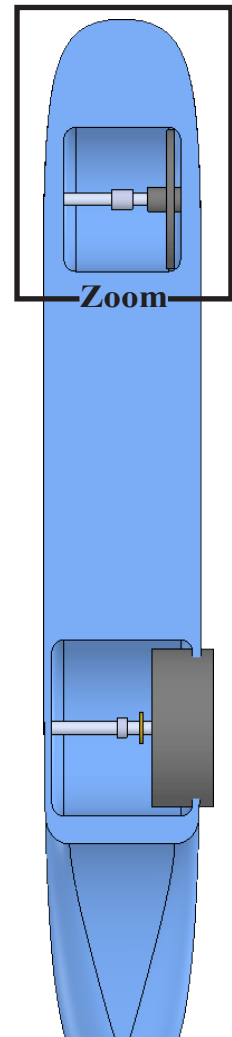

Fig. 9
Step 2. Zoom in around **front shell**, **Fig. 9**. To zoom, place the cursor over the front shell and spin the wheel on mouse back. While spinning the wheel keep cursor on front shell.